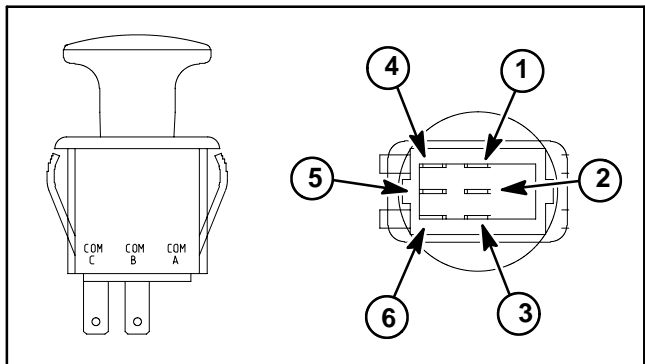

Figure 24
5. The switch terminals are marked as shown in Figure 24. The circuit logic of the PTO switch is shown in the chart below. With the use of a multimeter (ohms setting), the switch functions can be tested to determine whether continuity exists between the various terminals for each switch position. Verify continuity between switch terminals. Replace PTO switch if testing identifies that switch is faulty.